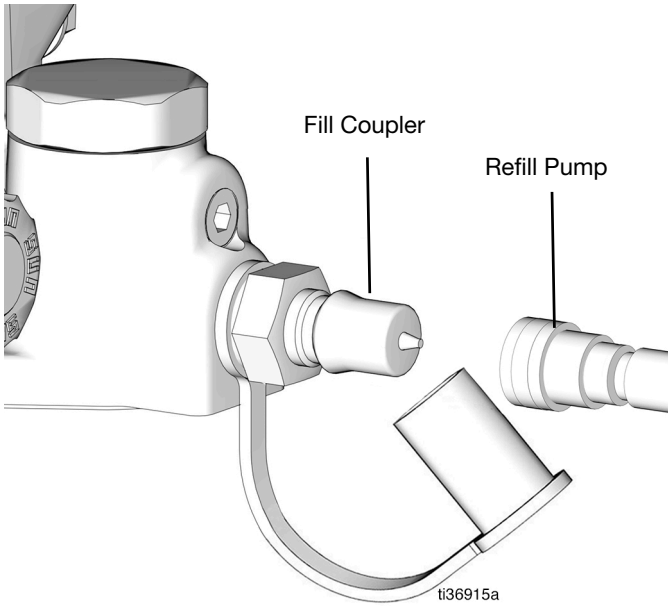

FIG. 75
35. Connect the refill pump to the fill coupler (FIG. 75).